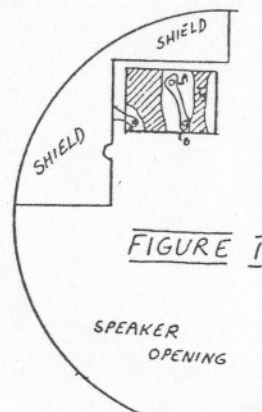

FIGURE 1
8. Look to the upper left of the speaker mounting hole (about the "10 o'clock position) and find on the the circuit board a printed, vertically bisected rectangle with a "T3" in the right-hand half (see Figure 1)
9. Note that there is conductor material running diagonally across the mid-section of the rectangle (labelled "A" and "B" in Figures 1 and 2).
14. I mounted the muRata by laying it on its side on the shield covering the PC board (visible in Figure 1) and spot soldering the tab to the shield, and the "tail" wire (connecting the ground poles) to a ground point (shaded area) on the circuit board. This was sufficiently sturdy that adhesive wasn't necessary. It might however, be necessary to glue the Vernitron to the shield because of its plastic casing.